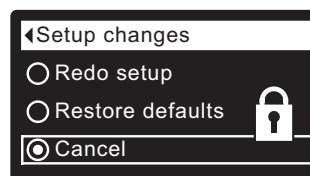

FIG. 31
8. Press the RIGHT (►) button. A flashing padlock icon will appear, as shown in Figure 31.
- 1-7. Go to the **Setup changes** screen (Figure 31) by following Steps 1-7 at left.